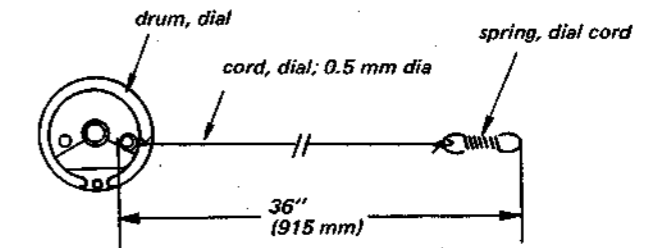

Fig. 2-6.
1. Make a dial cord assembly shown in Fig. 2-6 below.